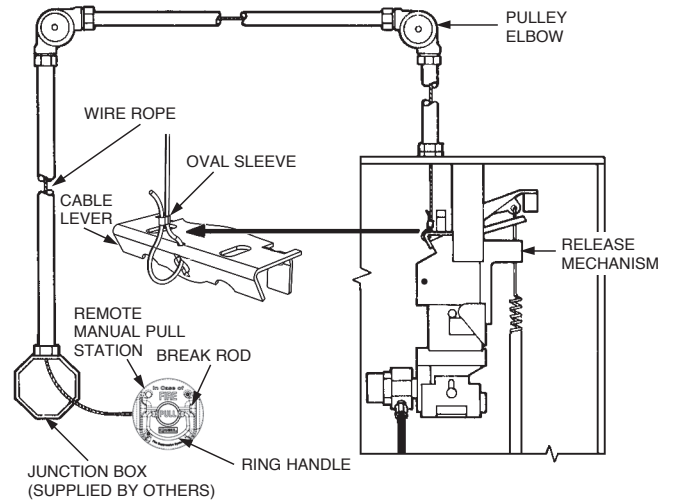

FIGURE 5-37
3. Install and secure the 1/2 in. conduit, pulley tee (if required), and the pulley elbows from each pull station junction box to regulated release assembly as necessary. See Figure 5-37.
6. Slide the oval crimp sleeve onto the wire rope. Loop the wire rope through the cable lever guide holes and back through the oval crimp sleeve. See Figure 5-37.
7. Pull the slack out of each wire rope and crimp sleeve. Use the National Telephone Supply Company Nicopres Sleeve Tool, Stock No. 51-C-887 or equal to properly crimp stop sleeve. See Figure 5-37.